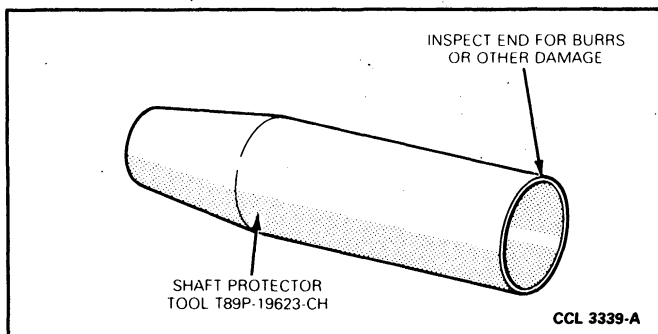

FIG. 11 Checking Shaft Seal Protector for Damage
1. Inspect Shaft Protector Tool T39P-19623-CH for any burrs or damage to edge of the large end of the tool (Fig 11). Do not use tool if it is damaged.